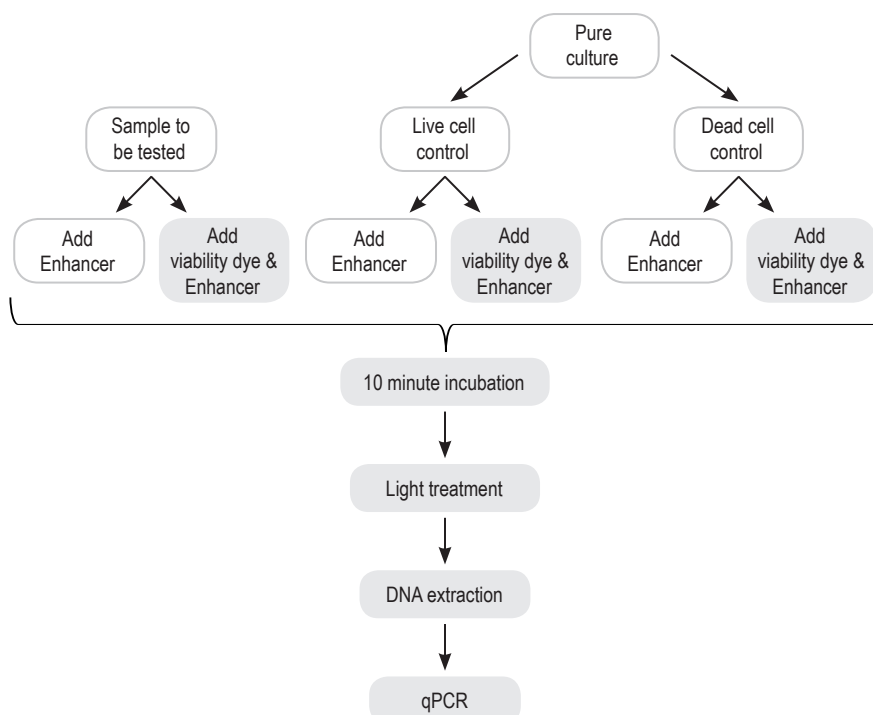

Figure 2. Workflow overview for viability PCR workflow of gram-negative bacteria using Enhancer.
- In order to validate PMA or PMAxx™ effectiveness in your sample of interest, it is best to perform live-cell and dead-cell controls, each with and without dye (Fig. 2). The change in Ct (ΔCt) caused by PMA or PMAxx™ for each control should be assessed (see "Data Analysis", p. 2).
See Fig. 2 for an overview of the procedure. This is a general protocol for treating cultured strains of bacteria with PMA or PMAxx™. It is recommended that you first perform a control experiment with live and dead controls for your selected organism. Treatment of complex samples, such as feces or soil, may require optimization of sample dilution, dye concentration, and light treatment time. Treatment of dilute samples, such as water testing, may require filtration or concentration before dye treatment.
3. Pipette 400 uL aliquots of bacterial culture into clear microcentrifuge tubes. For each sample you will need one tube for dye-treated cells and one tube for untreated (no dye added) in order to calculate dCt (see Fig. 2, “Considerations for viability PCR” #8, and “Data Analysis” for details).